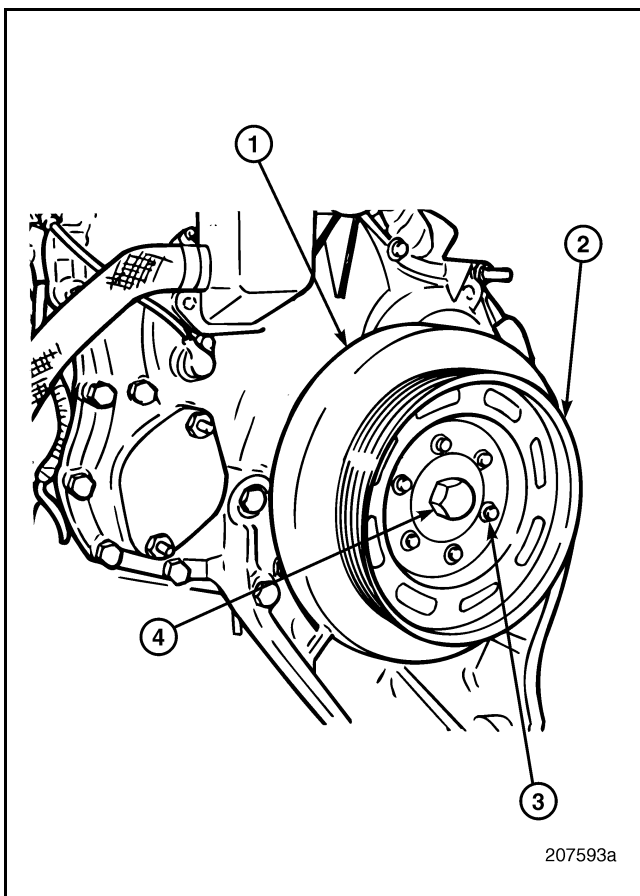

Figure 107 — Vibration Damper Removal
1. Remove six mounting capscrews (3). Refer to Figure 107.